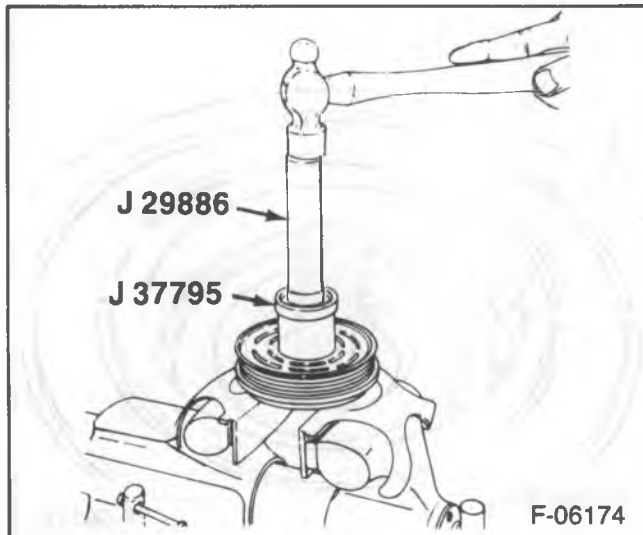
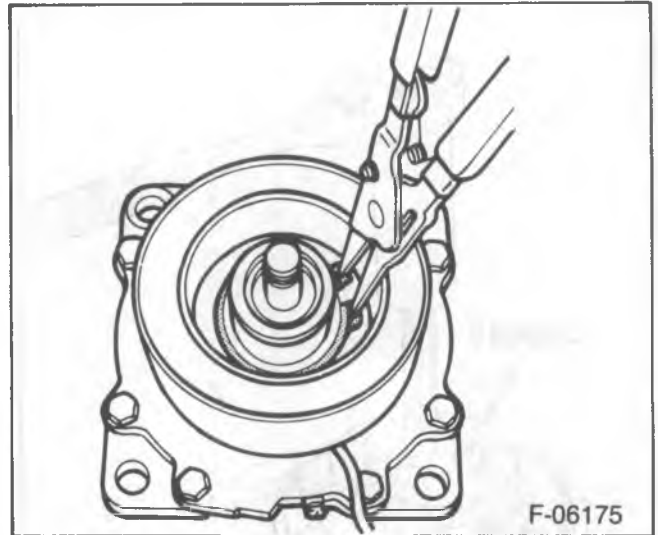

Figure 8—Removing the Bearing
Figure 9—Removing the Coil Snap Ring
- Tap the bearing (6) out (figure 8).
7. Field coil (10).
- Remove the snap ring (7) (figure 9).